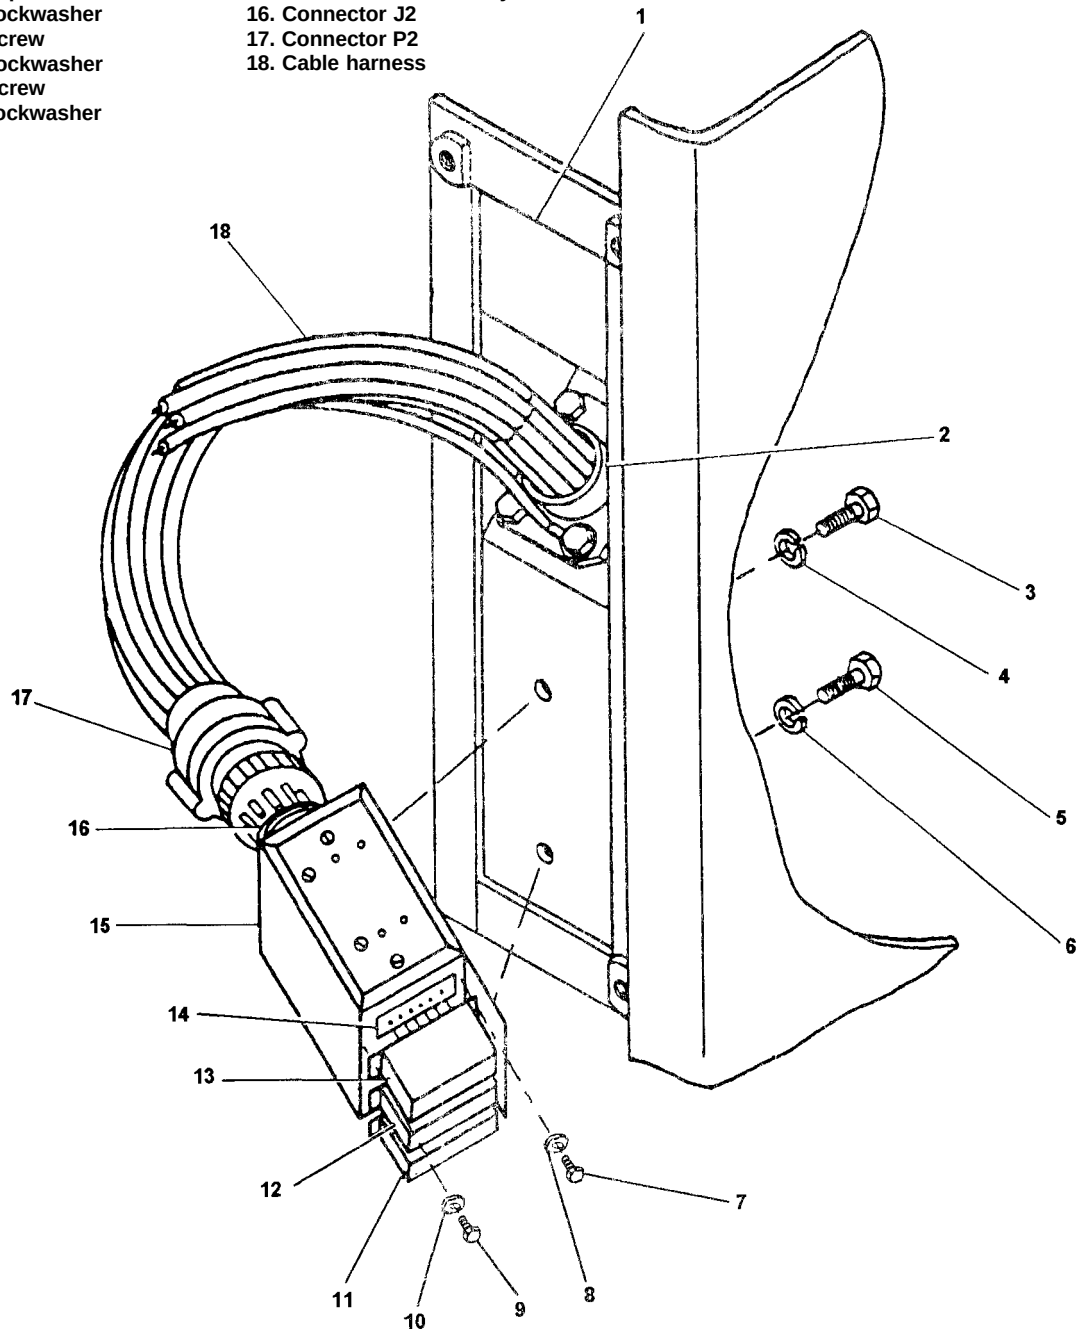

Figure 5-15. Remote Functions Assembly
- (1) Remove dust cap from connector J1 and inspect for dirt, loose pins, discoloration, and loose hardware. Make sure dust cover retaining chain is mounted on lower right hand mounting screw of connector J1.
- (2) Inspect interior of generator set for dust, dirt, water, and excessive oil or grease.
- (3) Inspect cables and wire harness connectors for loose connectors and plugs.
- (4) Inspect cables and wires for frayed insulation, burn marks, and loose wires and pins.
- (5) Inspect cable connector strain relief screws for tightness.
- (6) Inspect relays K1, K2, and K3 (Figure 5-15) on remote functions housing for discoloration, bent pins, and loose fittings.